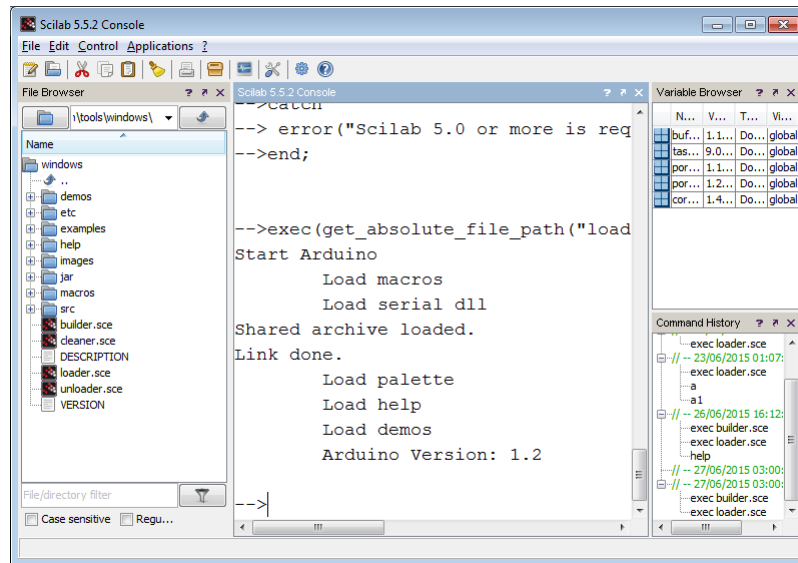

Figure 3.9: Output of loader.sce
6. Next, type the command, **exec loader.sce** - this will load the toolbox. This means all the new functions corresponding to the toolbox are loaded in the workspace. It will also make available new Xcos blocks, if any. The output of this command is as shown in Fig. 3.9. If you clear the workspace for any reason, you will have to execute this command once again³.